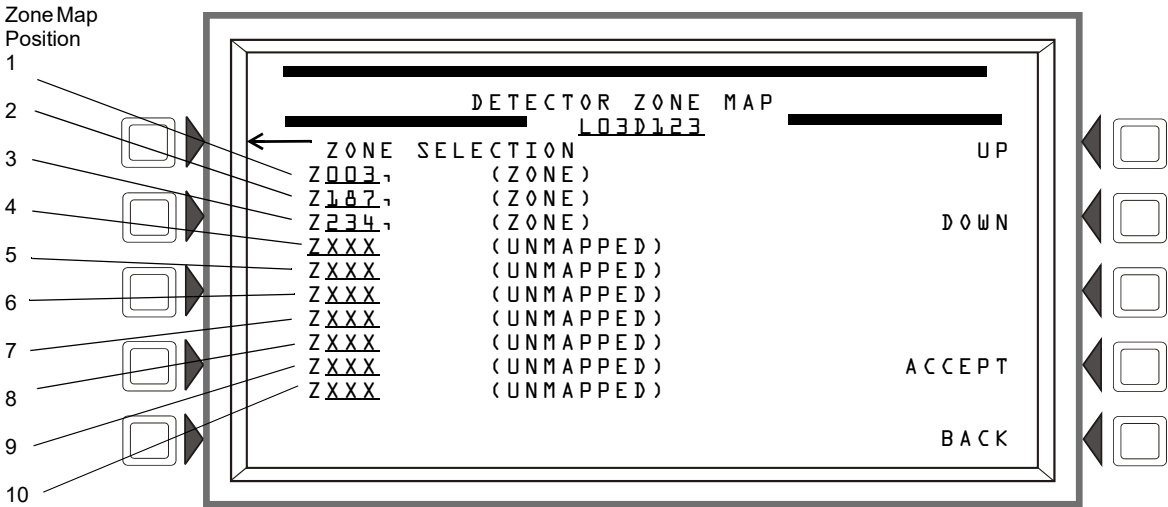

Figure 3.33 Zone Map (Detector Point) Screen
**ZONE MAP:** A detector may be mapped to up to ten general, releasing, or special function zones. There are ten positions available for mapping; positions 1, 9, and 10 have additional functionality. (Refer to Figure 3.33)